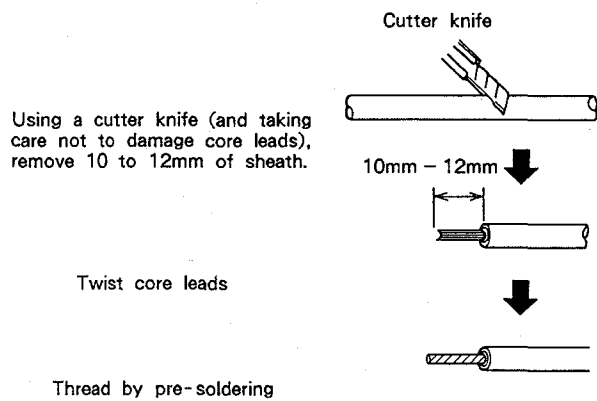

Fig. 10-3 Anode cable sheath peeling
- The method used to peel the sheath back is illustrated in Fig. 10-3. Use a cutter knife, taking care not to damage the core leads.